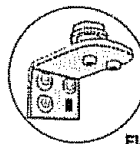

Fig. E2
3. Remove the three screws located on the lower door hinge (Fig E2).